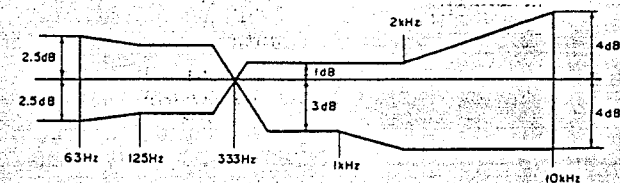

Fig. 12-18 Frequency response
3. Change the tape selector and DOLBY NR switch positions (See Fig. 12-18 and 19), and check that the frequency response is satisfactory.